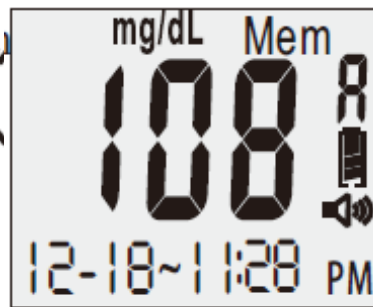

Figure 3-17
3. After a six-second countdown, you will hear: “**The glucose level is [number/unit].**” For those glucose tests that were flagged, the screen will display an “**A**” for an after-meal test and a “**b**” for a before-meal test (see Figure 3-17).